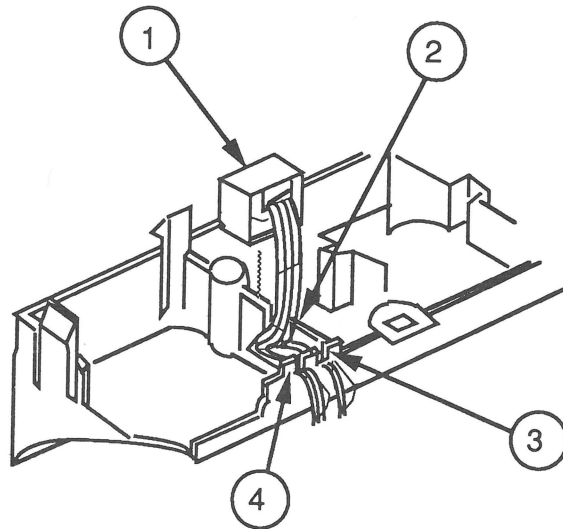

FIGURE 19
2. Turn the paper guide upside down so that the three screw holes are closest to you. Insert the optical sensor (Figure 19, #1) into the opening so that the wires come toward you.
3. Hold the wires against the underside of the paper guide and route all of the wires through Slot A (Figure 19, #2) while continuing to press the wires down against the bottom of the paper guide. Direct any two of the wires through Slot B (Figure 19, #3) and the third wire through Slot C (Figure 19, #4).